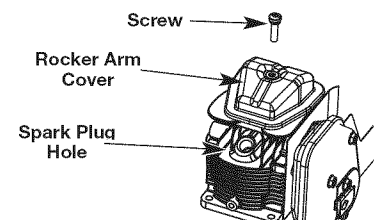

Fig. 30
- Clean dirt from around the rocker arm cover. Remove the screw holding the rocker arm cover with a large flat blade screwdriver or Torx T-25 bit (Fig. 30). Remove the rocker arm cover and gasket.
- The piston is at the top of its travel. This should be done by looking into the spark plug hole. (Fig. 30)